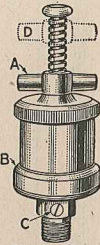

Figure 1.
**Second.** The large automatic grease cup (Figure 1, not furnished on the 1½ horse-power engine) goes on the connecting rod. To fill and adjust this cup, screw the lever "A" down as far as it will go. Then unscrew the cup at "B". With a screwdriver turn the screw in the shank "C" to the right until the hole through the bottom of the cup is closed.